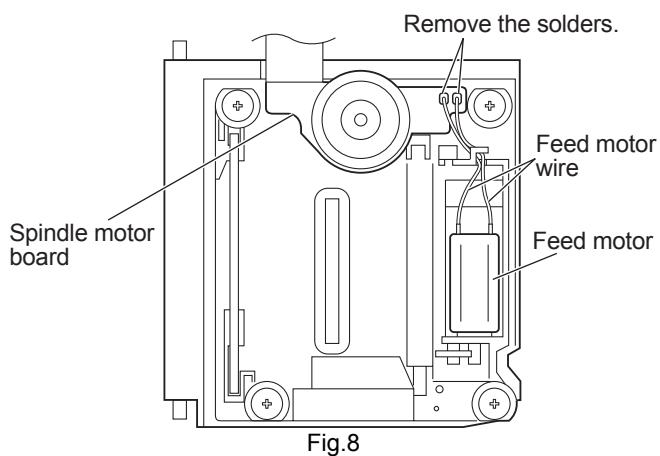
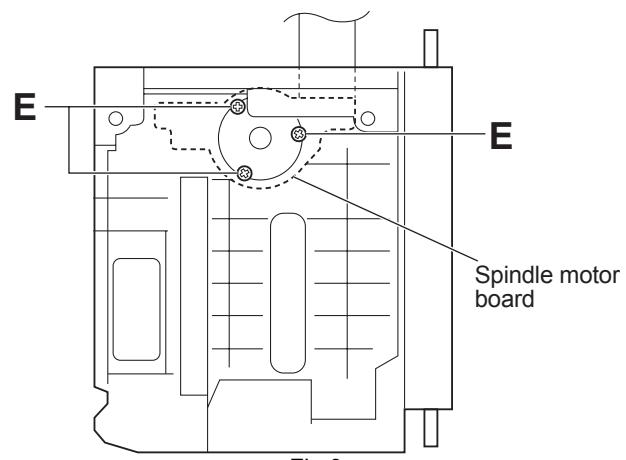

Fig.8
Fig.9
2.2.5 Removing the spindle motor board (See Figure 8, Figure 9)